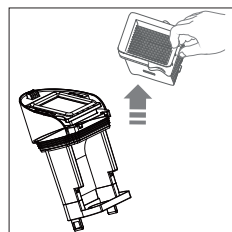

Fig. 17 – Removing the filter
- ▶ Pull the EPA 10 filter upwards and remove from the dirty water tank cap (see Fig. 17).